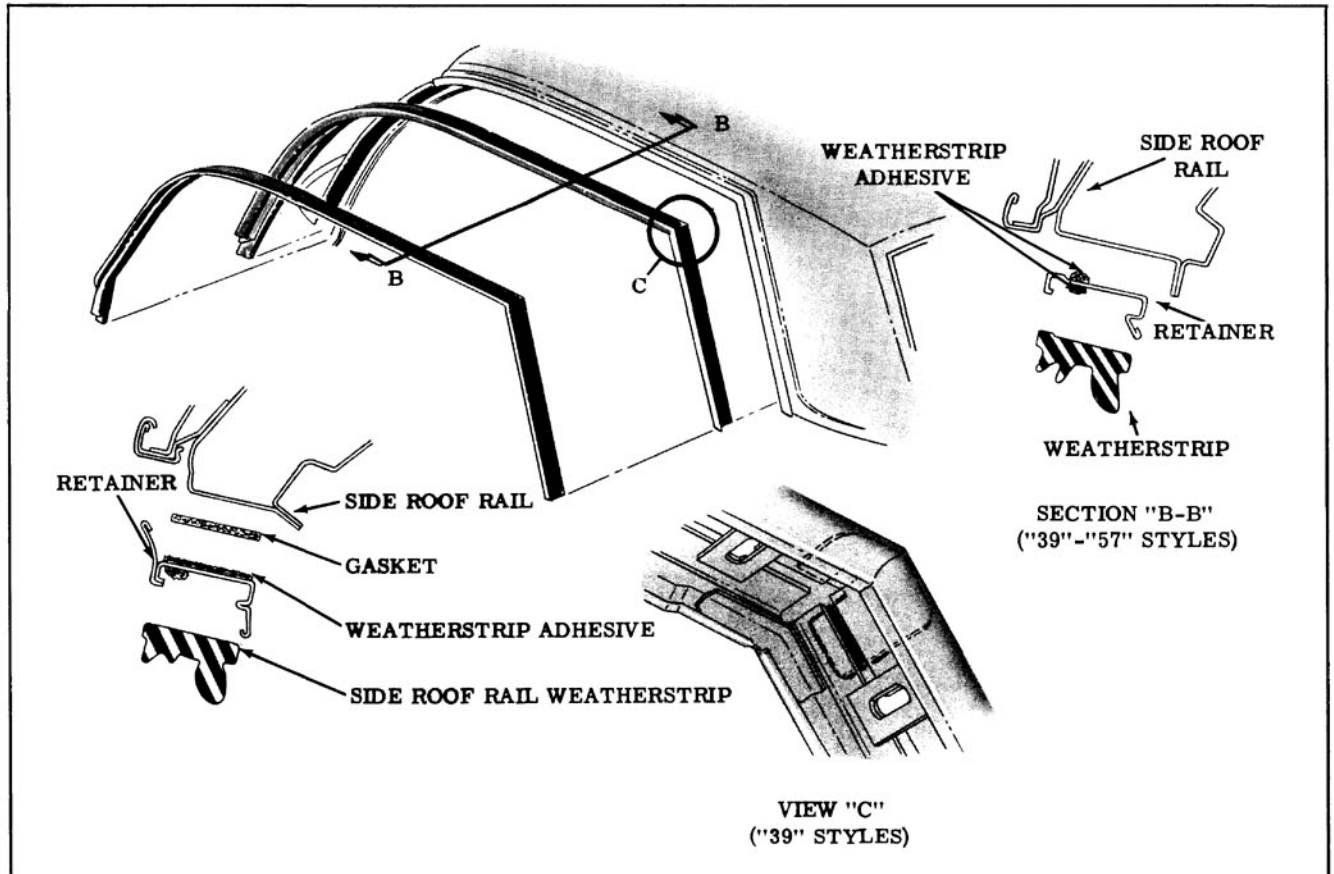

Fig. 16-76 Side Roof Rail Weatherstrip (39 & 57 Styles)
NOTE: The side roof rail retainer to side roof rail sealing gasket (Fig. 16-76) is not installed in production, but is recommended for service sealing. This gasket can be cut to size from existing stock.
2. Apply a continuous bead (approximately 3/16" diameter) of weatherstrip adhesive along entire outboard surface of side roof rail weatherstrip retainer. (Section B-B, Fig. 16-76)